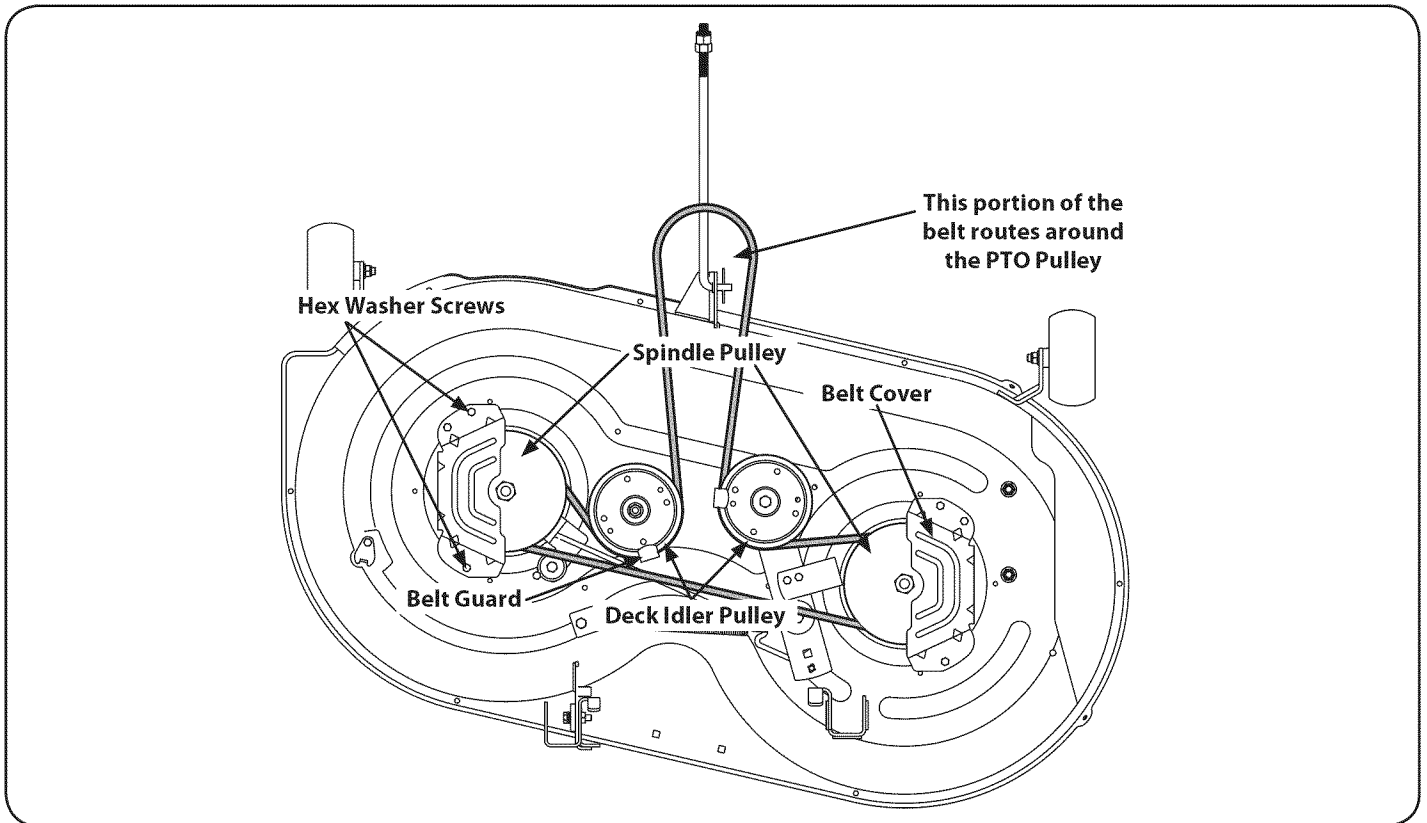

Figure 26
1. Remove the belt covers from the spindle pulleys by removing the hex screws that fasten the covers to the deck. See Figure 26.
3. Carefully remove the deck belt from around the two spindle pulleys and the two deck idler pulleys. See Figure 26.
4. To place the new belt, begin by routing the belt around the two outer spindle pulleys as shown in Figure 26.
5. Then route the belt around the two deck idler pulleys as shown in Figure 26.
8. Re-install the deck, making sure the belt remains routed around the pulleys as instructed. The complete belt routing is shown in Figure 26.